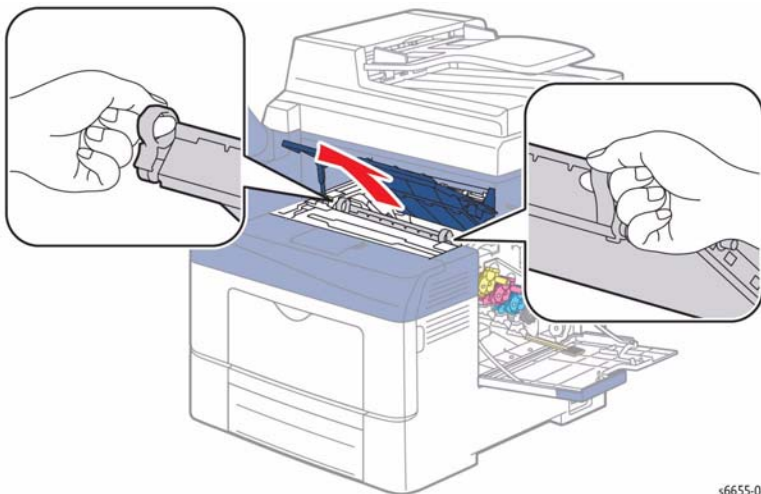

Figure 9 Remove the Transfer Belt
8. Pull out the Transfer Belt (REP 6.1.97), Figure 9.